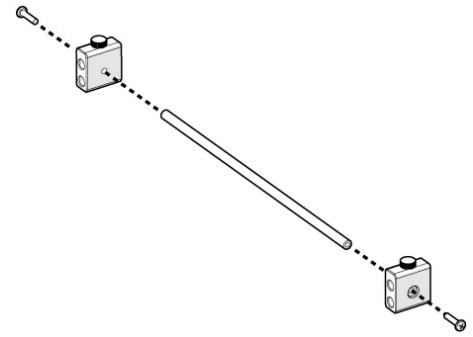

Figure 4. Cable lacing bar
- Step 1.** Insert the cable lacing pole into the adjustment blocks, then tighten the black phillips-head screws (see Figure 4).